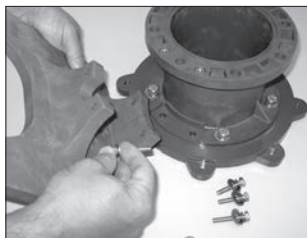
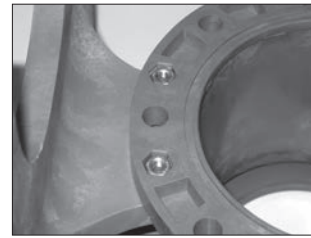

Figure 40
Figure 41
- For 56C, 145TC and 80 frame B14, re-install the plastic foot (item 15) to the motor adapter (item 12D). Use the longer M6 bolts, lock washers and flat washers (items 28A, 29 and 30) for the front bolt holes towards the clamp ring. See figure 40. Use the shorter M6 bolts, lock washers and flat washers (items 28, 29 and 30) for the rear bolt holes towards the motor face. NOTE: Nuts (item 31) are glued into the rear of the motor adapter to help with the installation of the rear bolts. Make sure the nuts are still in place. See figure 41. Tighten bolts to 5 ft-lbs. (6.8 N-m). For 184 frame, IEC 90, 100/112 frame B14 and 80/90 frame B5, leave the foot off until the motor adapter is installed on the motor. This will allow easier access to the bottom bolt hole in the motor adapter.